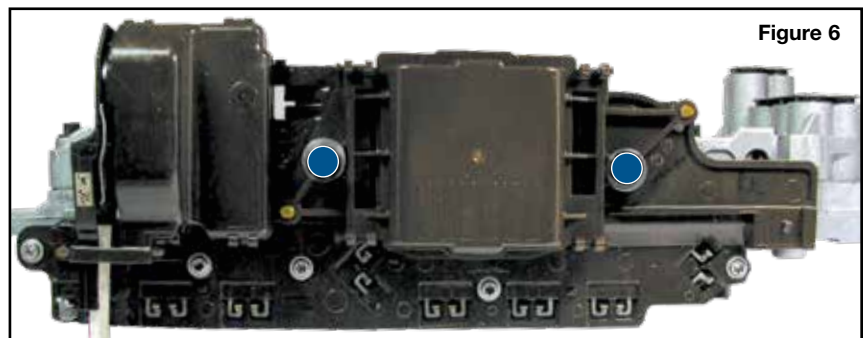

Figure 6
- Remove the two 8mm head bolts on the side of the TEHCM (**Figure 6**).
- Place the TEHCM on the valve body. Install the two 8mm head bolts and *hand-tighten only* (Figure 6).